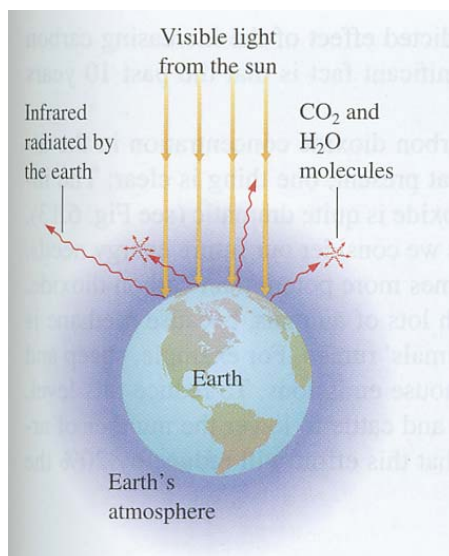

FIGURE 6.12
- **Infrared Radiation:** Most of the energy that goes into heating the earth's surface is reradiated back toward space in the form of infrared radiation. Not all of it gets there. Several atmospheric gases such as carbon dioxide, water vapor, and methane are opaque to infrared and absorb it, only to reradiate it. The process is illustrated in Figure 6.12: